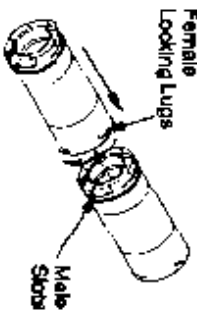

Figure 8 - Vent Pipe Connections
- Twist-Lock Procedure: Female ends of pipes have locking lugs (indentations). These lugs will slide straight into matching slots on male ends of adjacent pipes. Push pipe sections together and twist one section clockwise approximately one-quarter turn until sections are fully locked (see Figure 8).